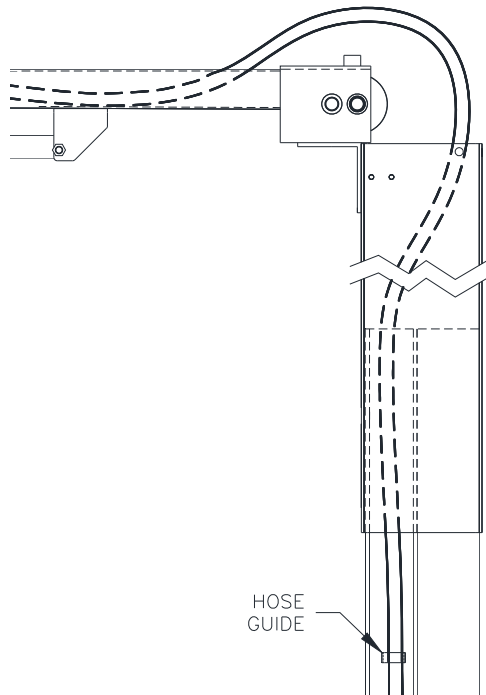

Fig 15 – Hose Routing
- 30) Route hoses through hose guides in Column. Run Idler hose up through Column Extension, over the top of the Overhead, and down through the opposite Column Extension as shown in **Fig. 15** below.